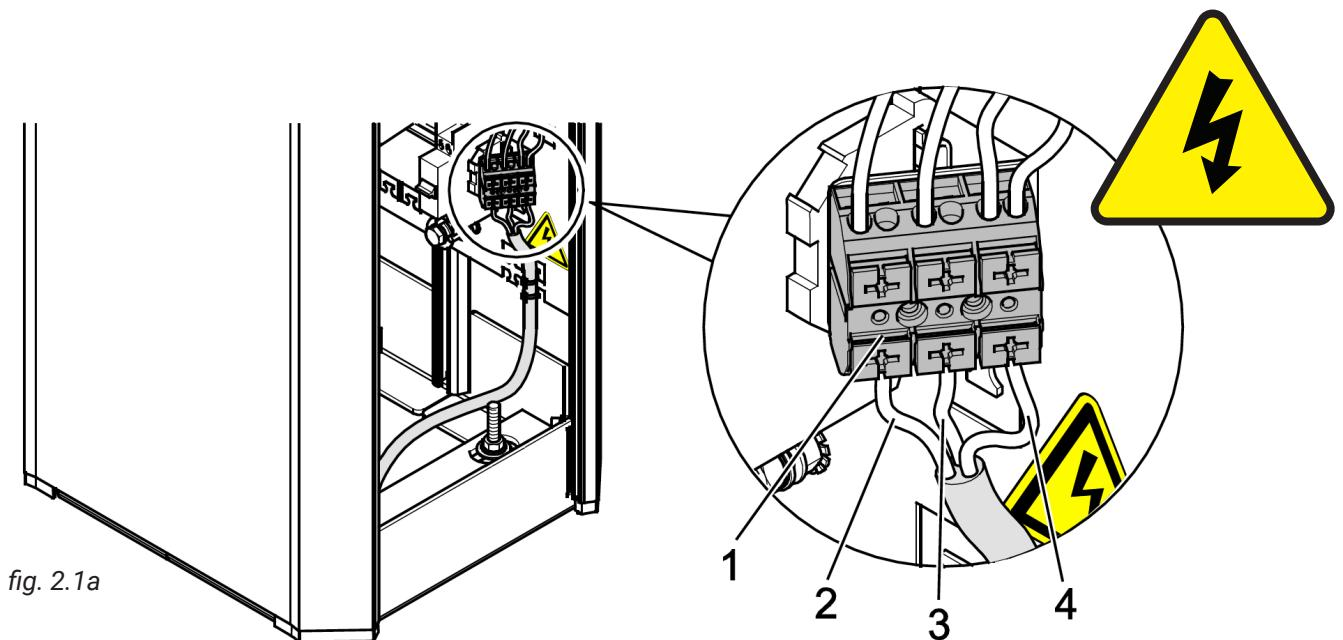

fig. 2.1a
2. Push stripped wire ends into the push button connector (fig. 2.1a #1). Ensure wire is fully seated and locked.